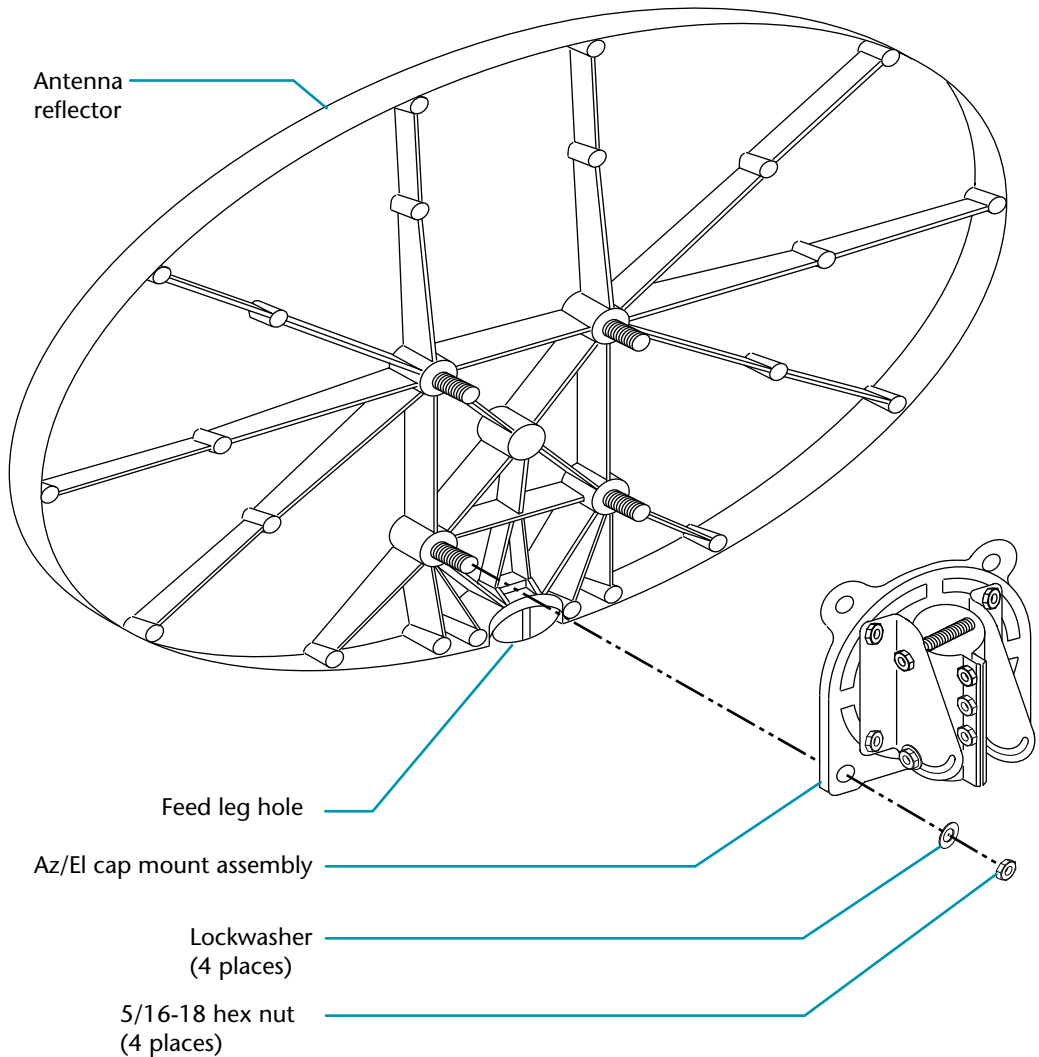

Figure 4-10. Assembling antenna reflector onto AZ/EL cap mount
1. Insert the four threaded studs on back of antenna reflector through corresponding holes on AZ/EL cap mount assembly (see figure 4-10).
Verify that feed leg hole is oriented downward as shown in figure 4-10.